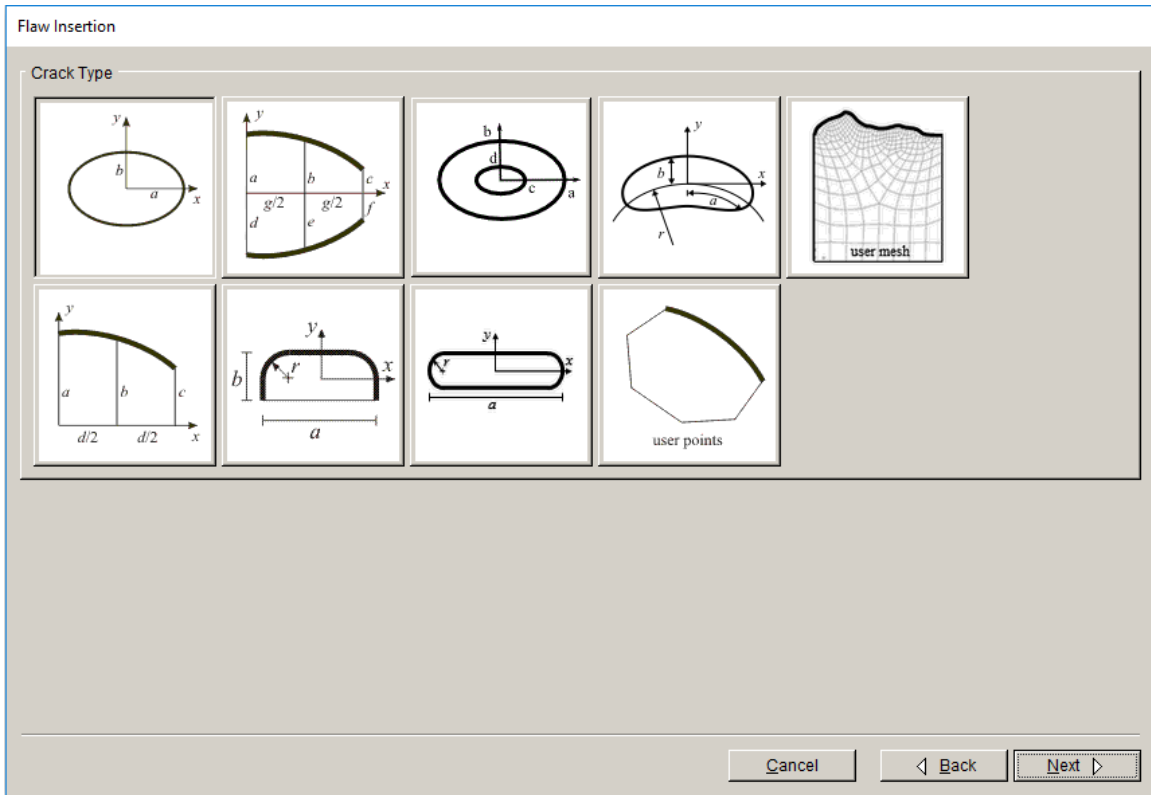

Figure 6.1.3 New Flaw Wizard crack (zero volume flaw) types.
- 1) elliptical crack with one crack front – top left icon in Fig 6.1.3,